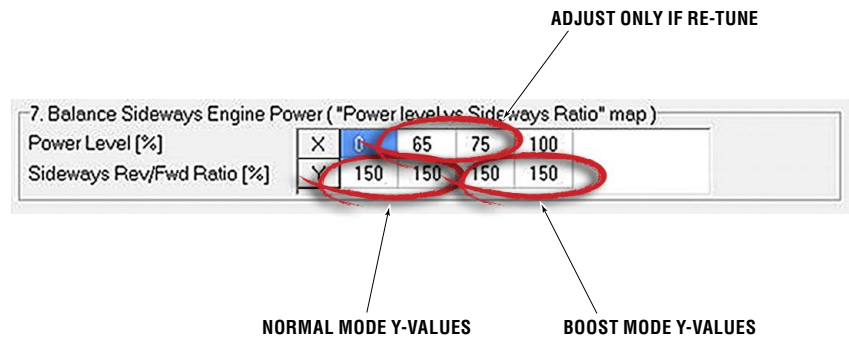

Figure B-13. Sideways REV/FWD ratio curve parameters.
If you adjusted the power levels in STEP 8 and are now performing a re-tune, adjust the X-values in the table as follows (see figure B-13):
- a. If the boat moves aft, decrease both *normal mode Y-values* (see figure B-13) by the same amount. If the boat moves forward, increase the values.